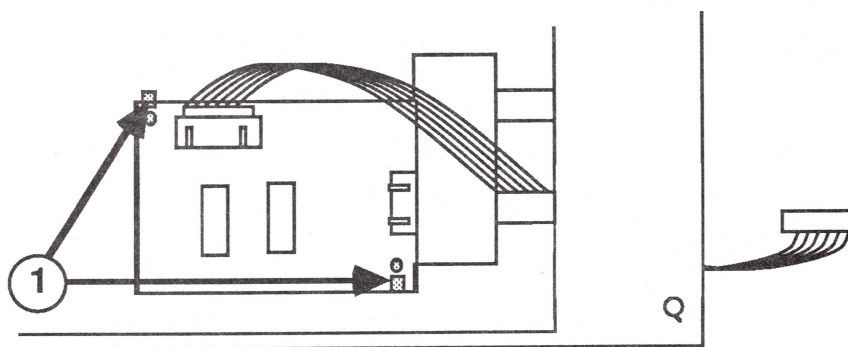

FIGURE 6
6. Note the position of the PCB Assembly. Then remove it by gently prying back the two retaining tabs (see Figure 6, #1).
1. Position the PCB assembly and snap it into position (see Figure 6, #1).